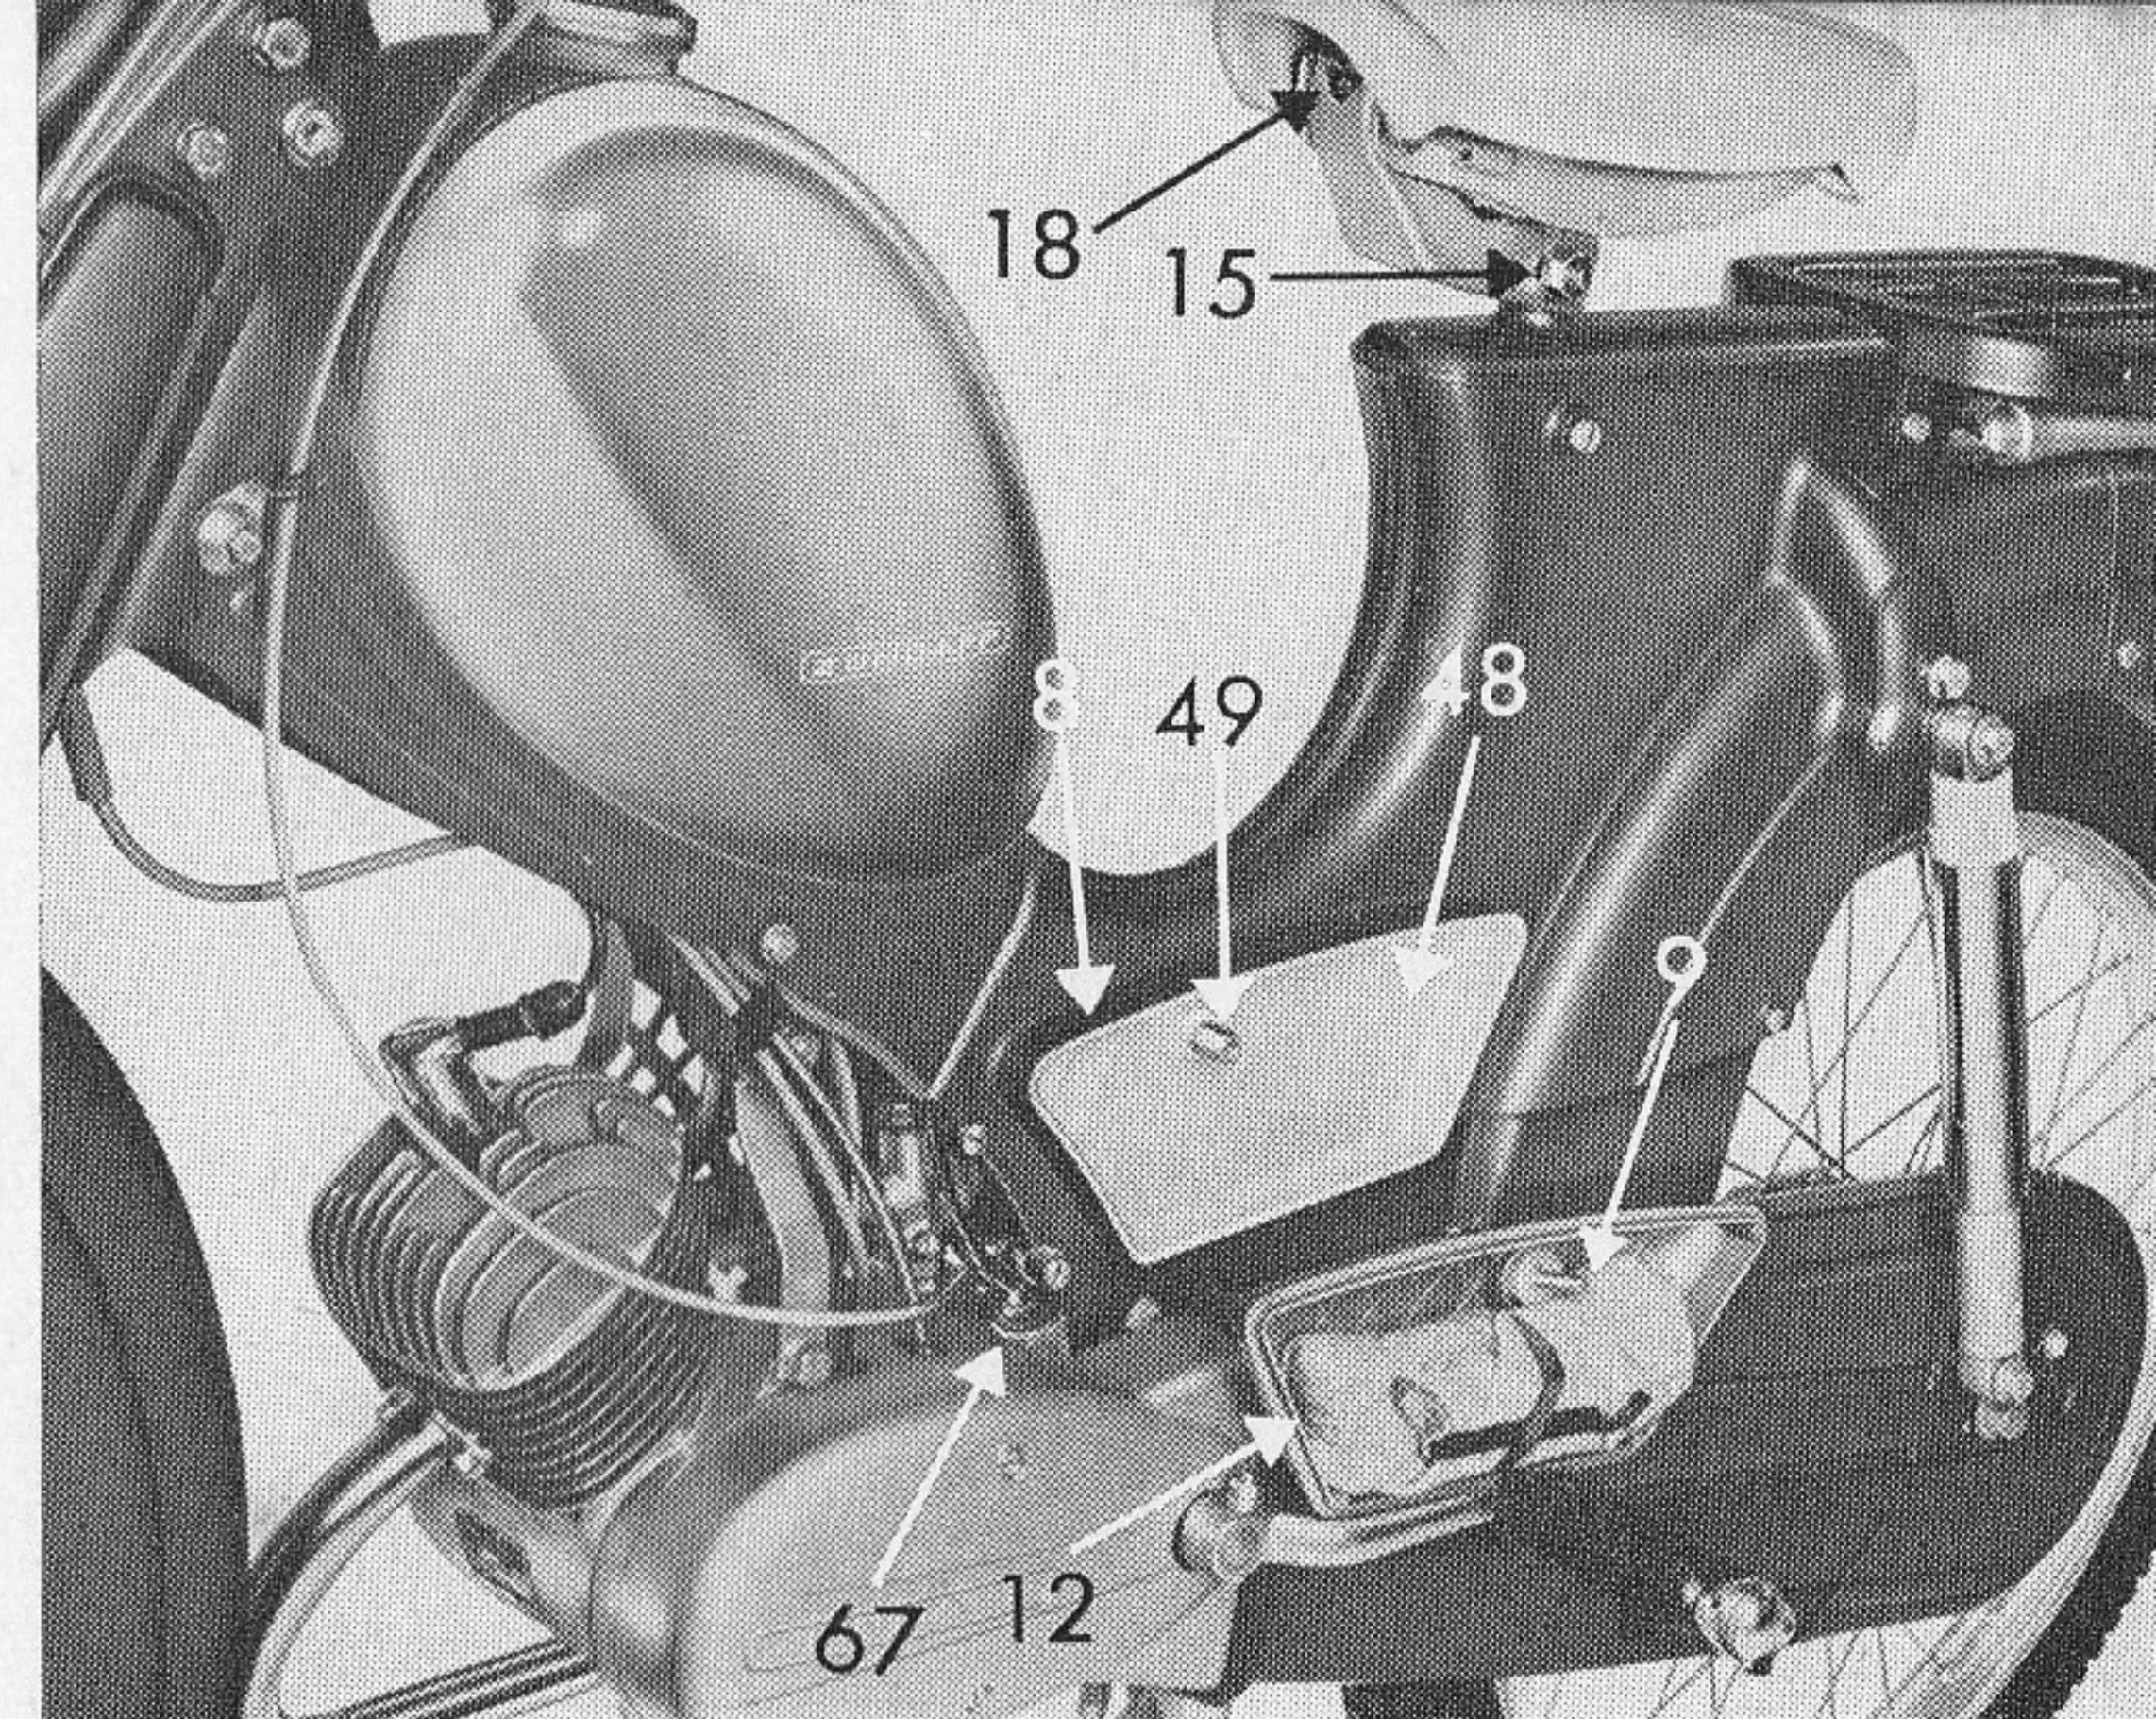
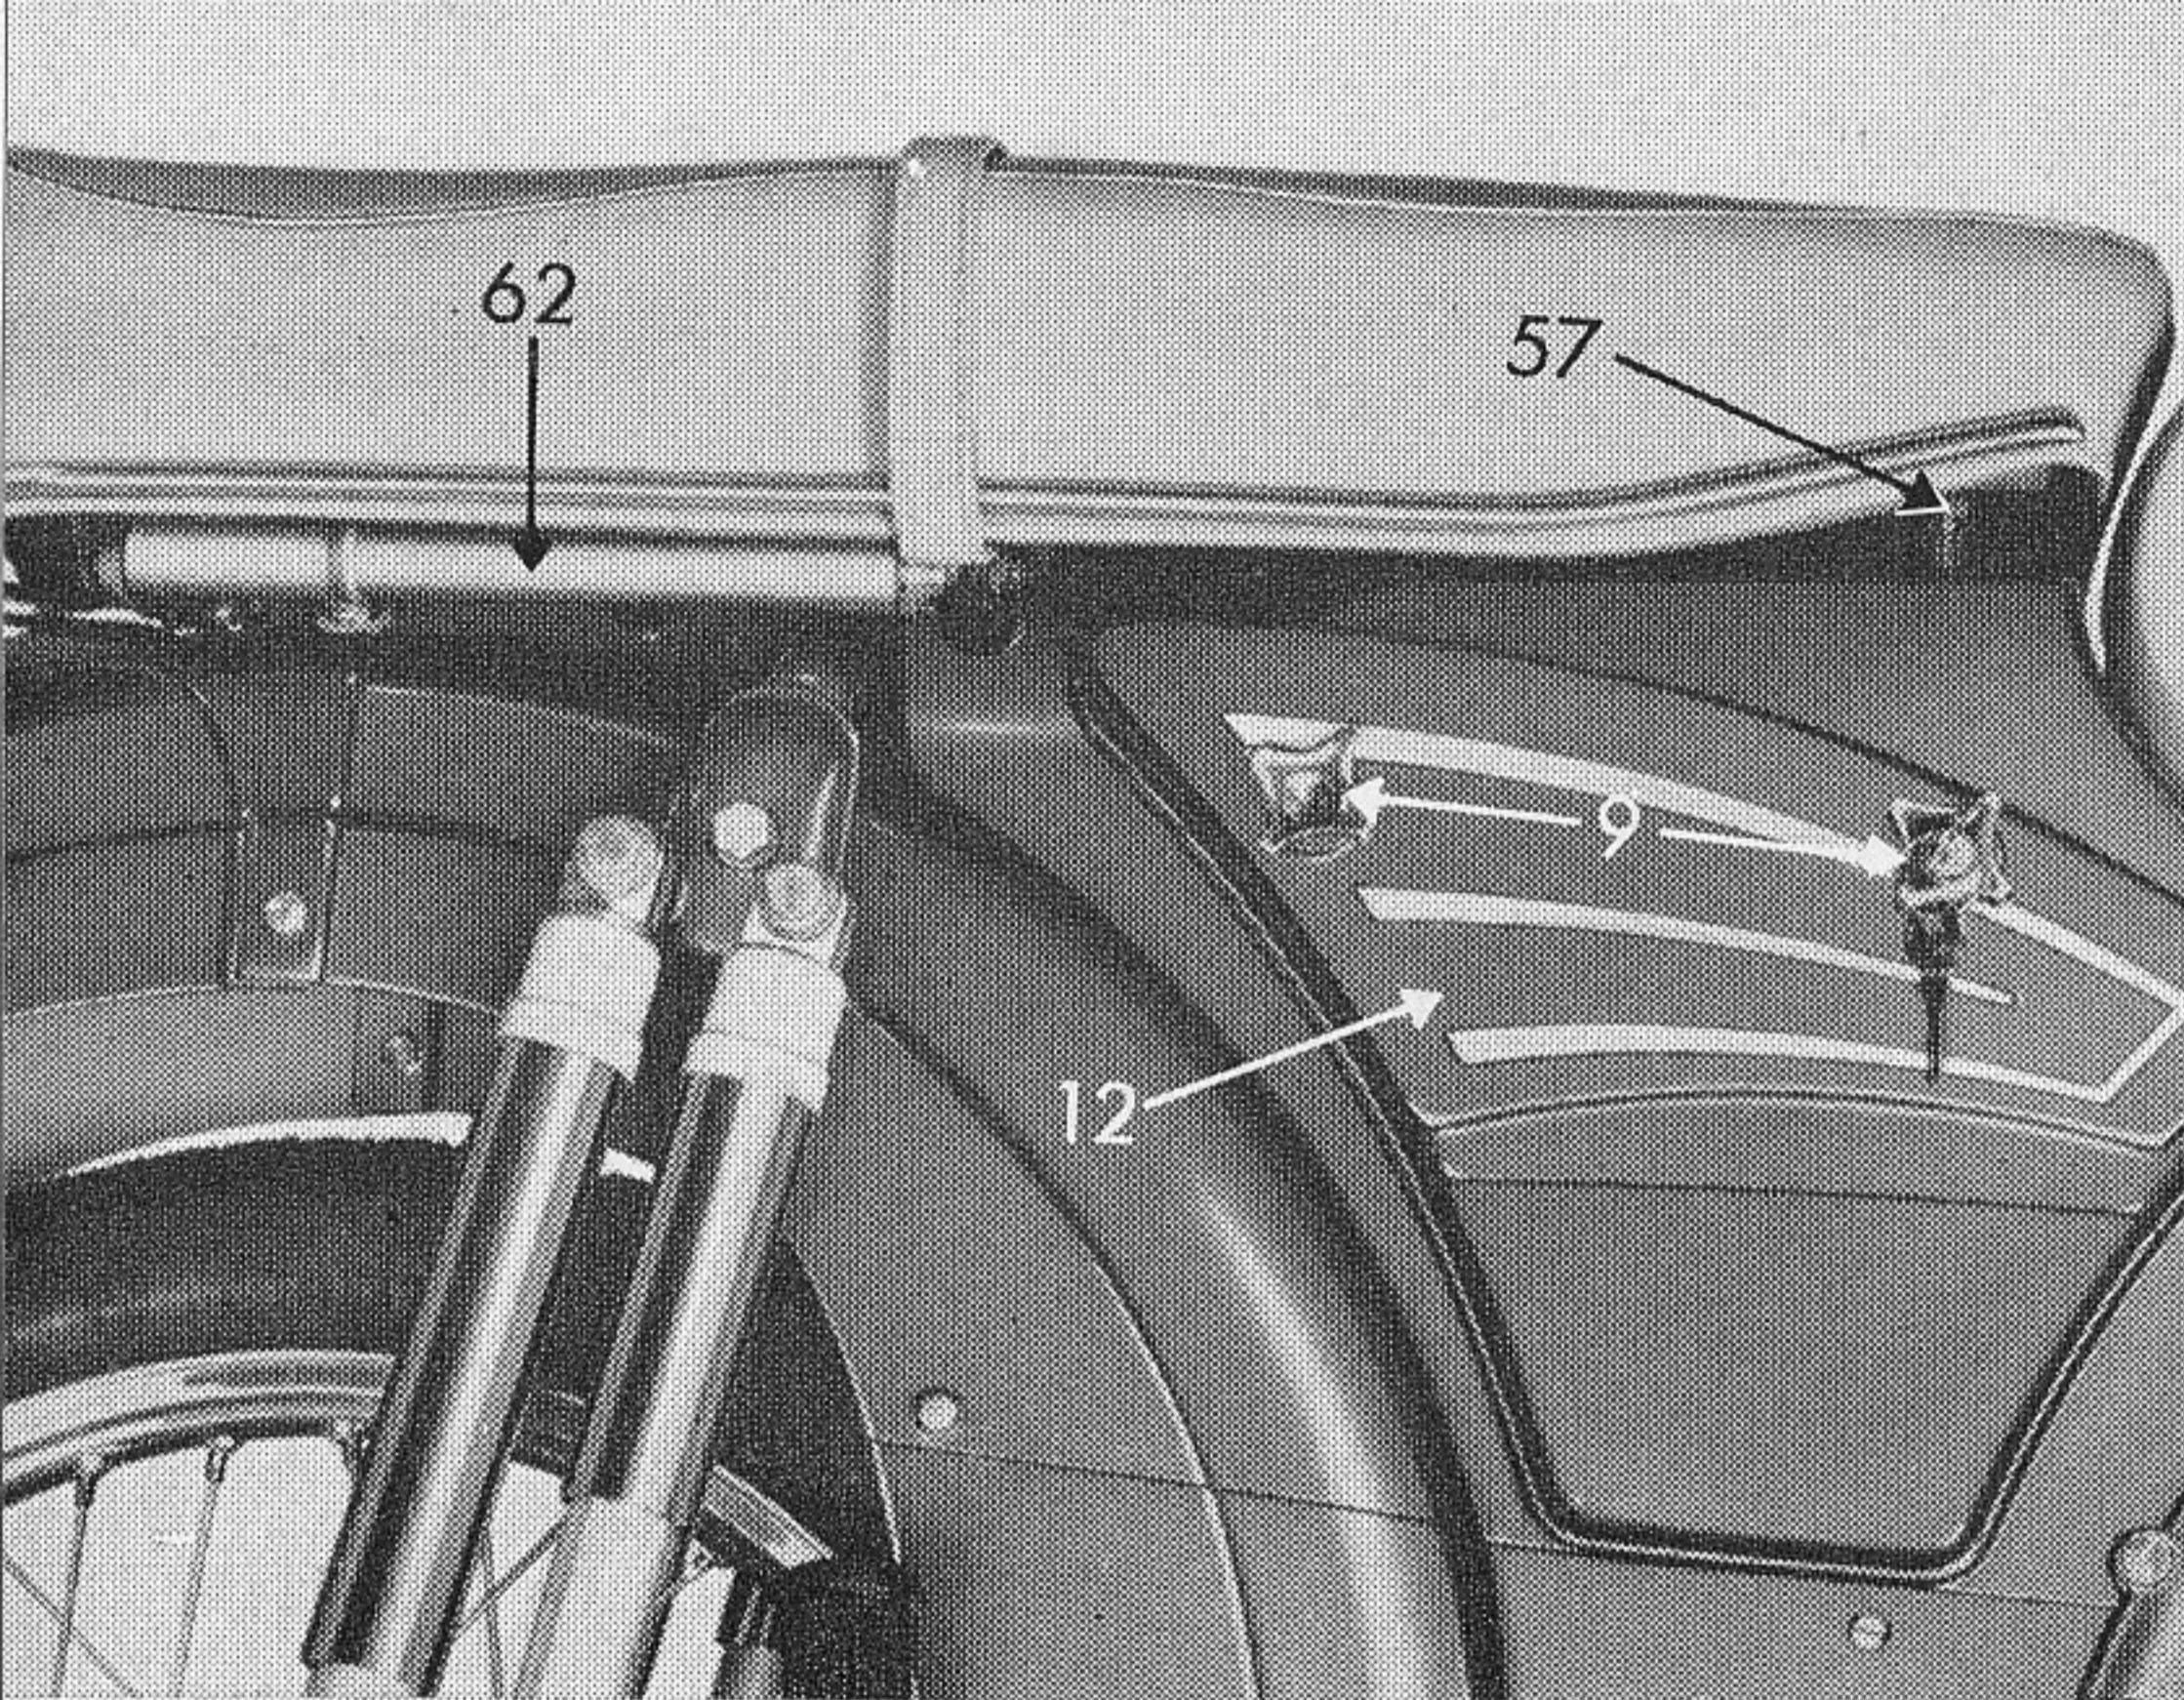

Fig. 4
Fig. 5
7. Lock and Tools (figs. 4 and 5)
Tools are located in the toolbox in the centre of the frame, at the left-hand side (fig. 4), for all machines with "open" frame, and at the right-hand side for all machines (sports models) with "closed" frame (fig. 5).
The toolbox cover 12 is secured with one locking screw 9 on all machines with "open" frame (fig. 4), and with 2 locking screws 9 on all machines with sports-type frames (fig. 5). To release
the cover, take off the screw or screws. Locking screws 9 (fig. 5) of sports machines are fitted with a built-in safety lock opened with the key supplied. After taking off cover 12, all tools are readily accessible. The tool set supplied will enable the owner to carry out all maintenance work and simple repairs.
1. Saddle (fig. 4)
Adjusting saddle (fig. 4)
Adjusting Saddle Springing (fig. 4)